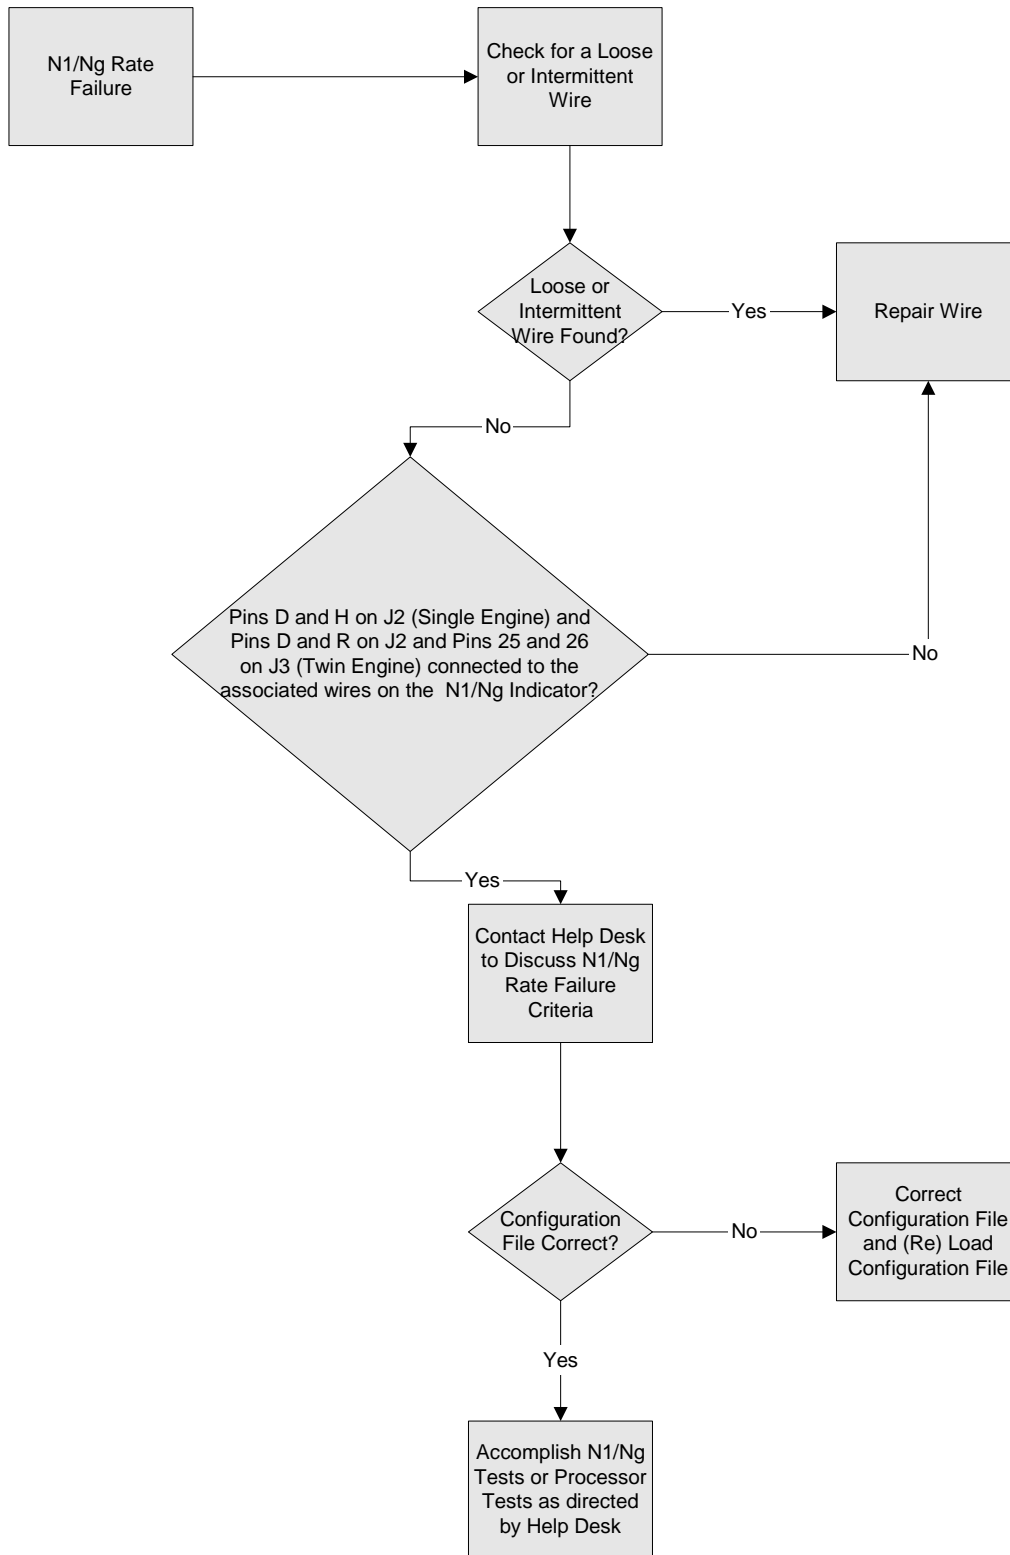

Figure 33: N1 (Ng) Rate Failure Troubleshooting
- c. Rate Failure – Refer to Figure 33